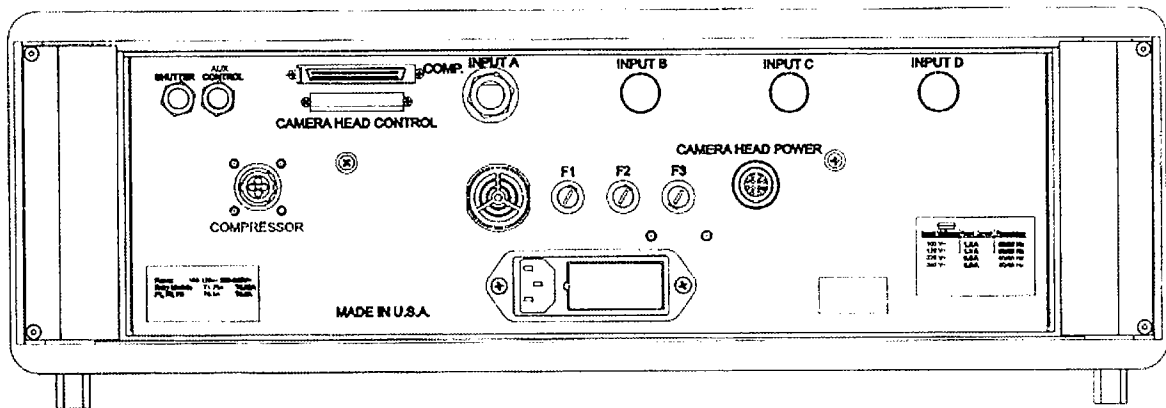

Figure 31 - MarCCD controller diagram
- Connect cables to controller. Cables for A, B, C, and D must correspond to the colors inserted in A, B, C, and D inputs in the controller. See Figure 31.